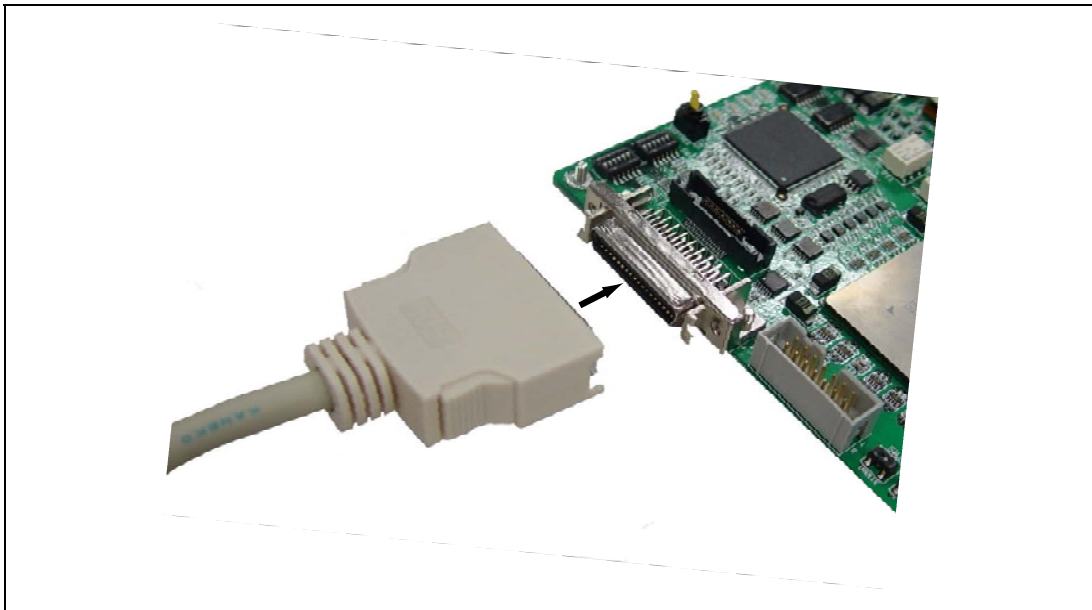

Figure 2.3 Connecting the User System Interface Cable (36 Pins) to the Debugging MCU Board
2. Connect the 14-pin or 36-pin connector of the user system interface cable to the H-UDI interface connector on the debugging MCU board as shown in figures 2.3 and 2.4. Connect the 36-pin or 14-pin connector to CN7 or CN6, respectively.